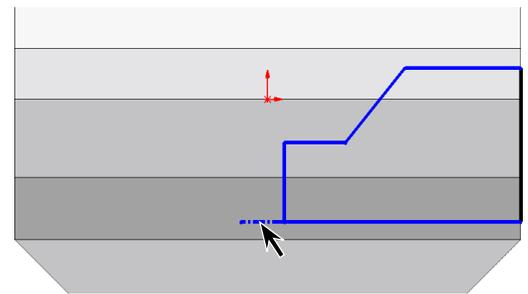

Fig. 20
Step 7. Sketch a **short horizontal centerline out from left endpoint of bottom horizontal line**, **Fig. 20**.